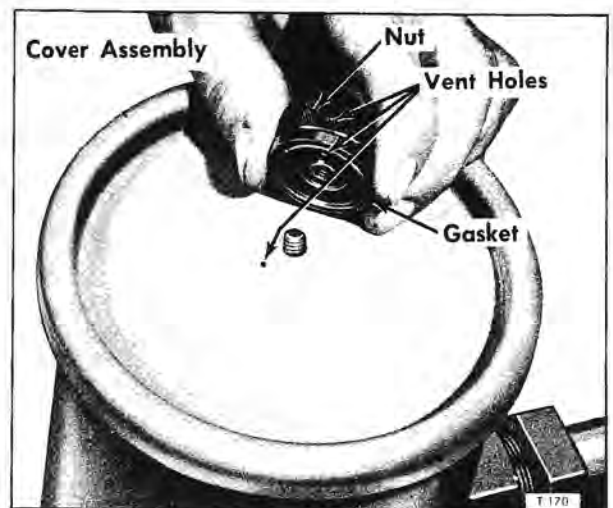

Figure 32—Vent Hole Locations In Reservoir Cover and Nut
ket (2), prod small diameter wire into vent holes in cover (3) and cover nut (1). See figure 32 which shows nut removed and vent holes exposed.
6. With gasket (2) located in groove of cover nut (1), install nut.